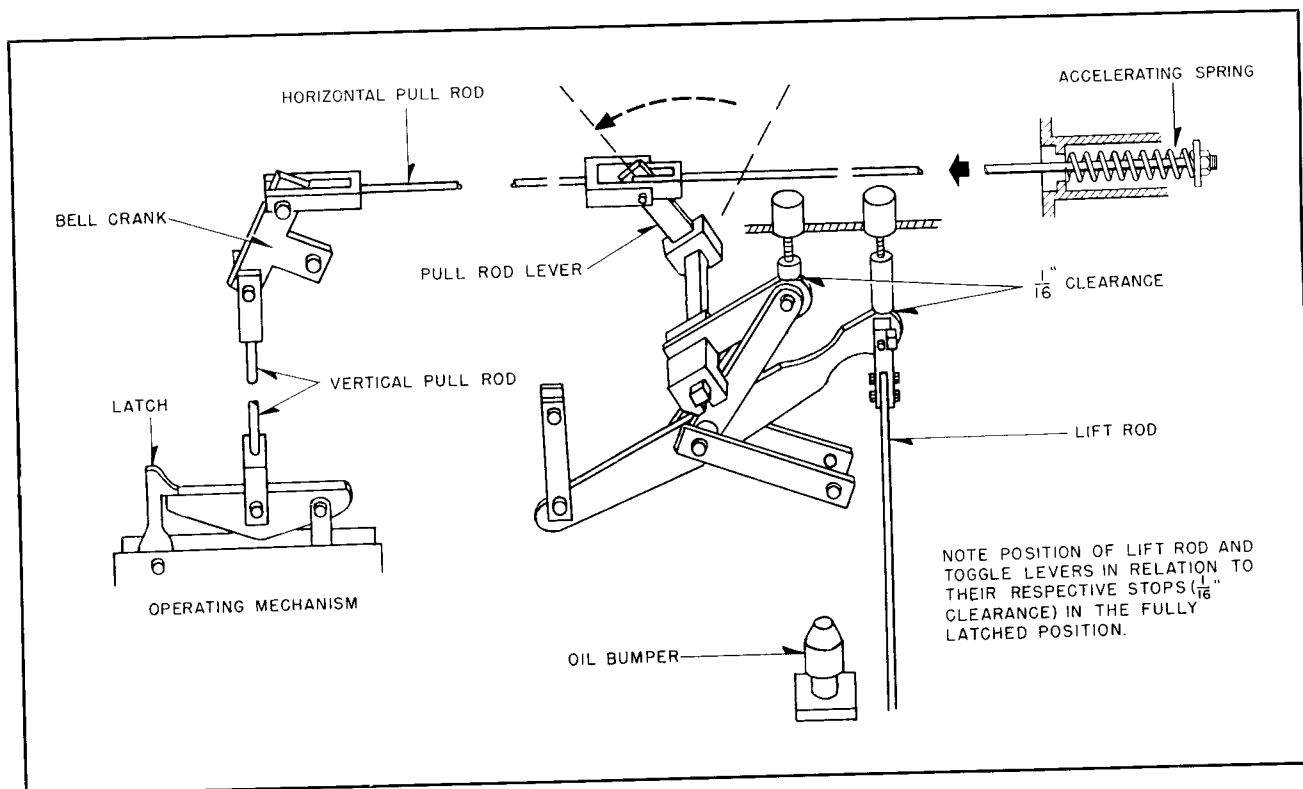

FIG. 22a. Closing Strokes of Pole Unit Lever Mechanism
The function of the lever system is shown schematically in Figs. 22a and 22b. (For full cutaway view, refer to Fig. 5, page 11.)
**Adjustments.** When the breaker is properly adjusted, and has been closed by hand, there should be  $\frac{1}{16}$ " clearance at the toggle stops and lift rod stops. (See Fig. 5.) This clearance is necessary, to permit the operating mechanism to overtravel and latch (see Figs. 22a and 22b), and to make sure that the closing movement is stopped by the operating mechanism without undue strain on any of the pole unit parts. If the toggle lever were permitted to go too far forward, the toggle link would strike the crankshaft, and the tripping speed would be slow. Conversely, if the toggle lever were too far back, the breaker would be difficult to close.